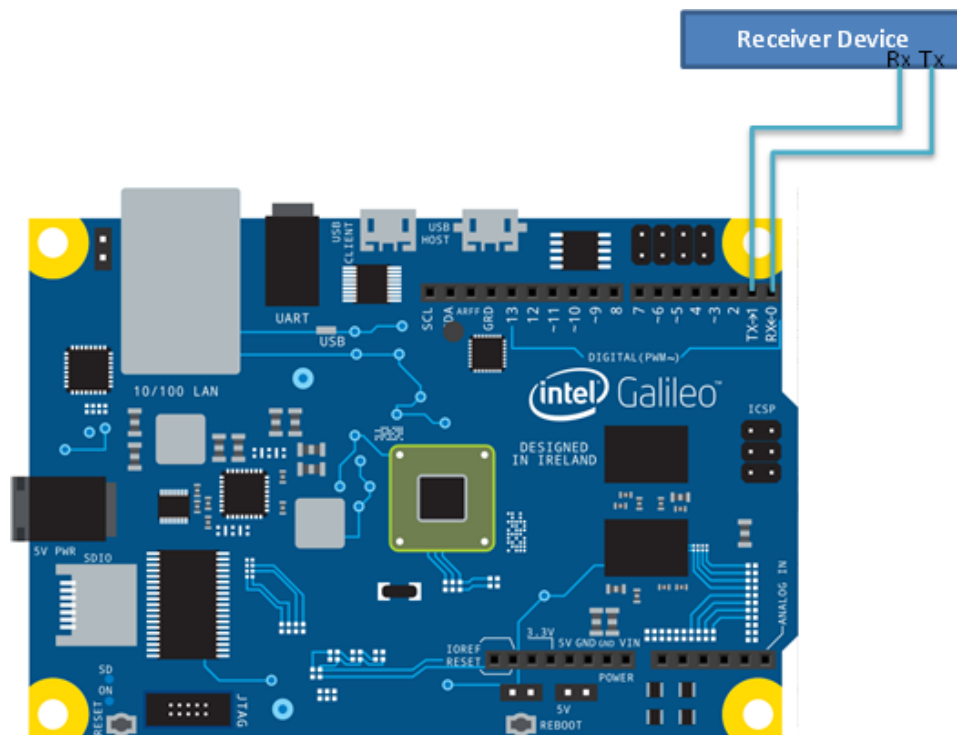

Figure 13: UART connection
**Connection:** See figure: 13